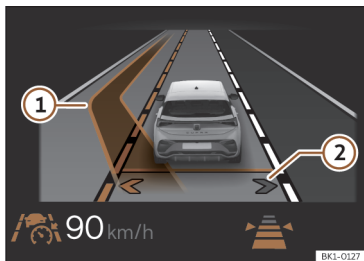

Fig. 120 On the instrument cluster screen: lane change assist display (schematic representation).
Lane change assist is activated. The arrows of your own lane on the instrument cluster display are grey >>> **Fig. 120 ②**
If the system detects no objects in the detection field of the sensor system and an assisted lane change to an adjacent lane is possible, the corresponding lane is shown in the instrument cluster display next to the driver's own lane. The arrow on the corresponding side of the lane is displayed in white >>> **Fig. 120 ②**.